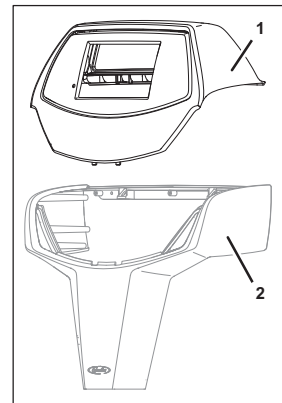

Fig. 39
11. Lift and remove the taxi cab hood (Fig. 39/1) from the front panel (Fig. 39/2).
20. Position the taxi cab hood (Fig. 39/1) on the front panel (Fig. 39/2).